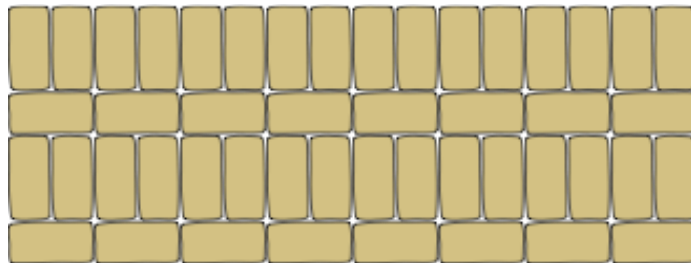

Figure 1a: Correct stacking sequence — bottom layer as seen from above
- Set the first layer of the stack carefully on the pallets — this layer is fundamental for maintaining uniform stacks. (See Figure 1a and 1b below.)